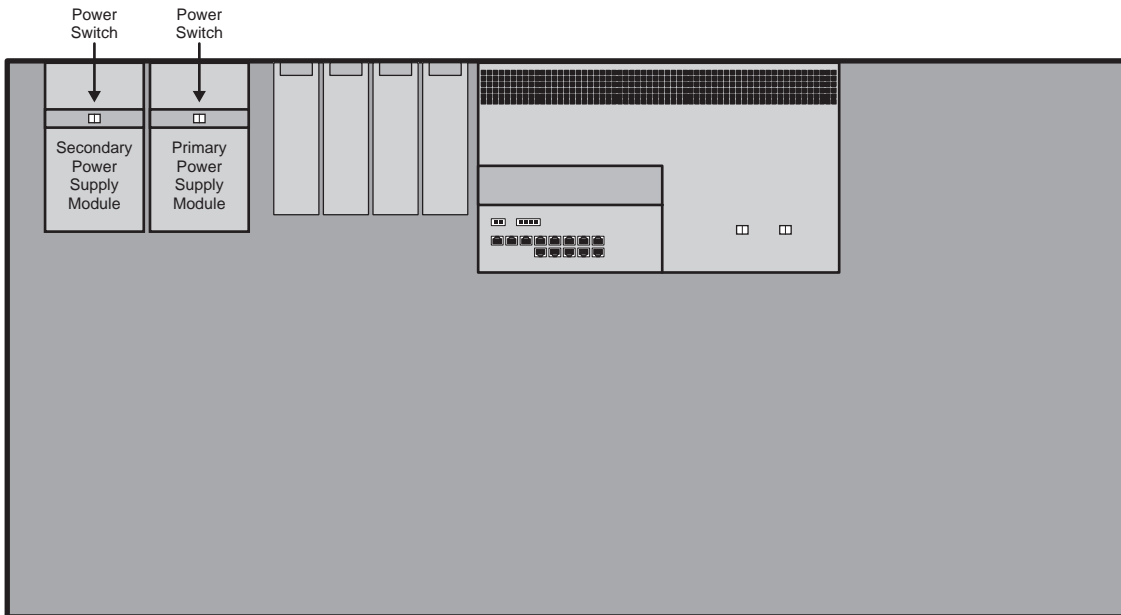

Figure 18.4 Power Supplies Inside The Control Panel Tub — Vision 4
1. Toggle the **Primary** and, if installed, **Secondary AC Power** switches for the control panel to **OFF** (Figure 18.4).